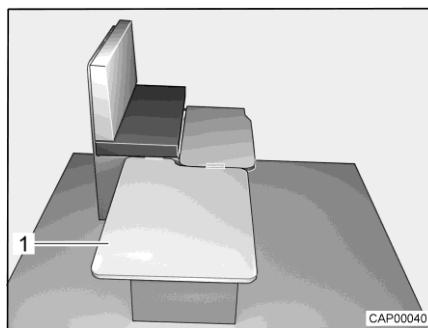

Fig. 37 During conversion
- Hook removable board (Fig. 37,1) in on the side of the bench and place it on the table.